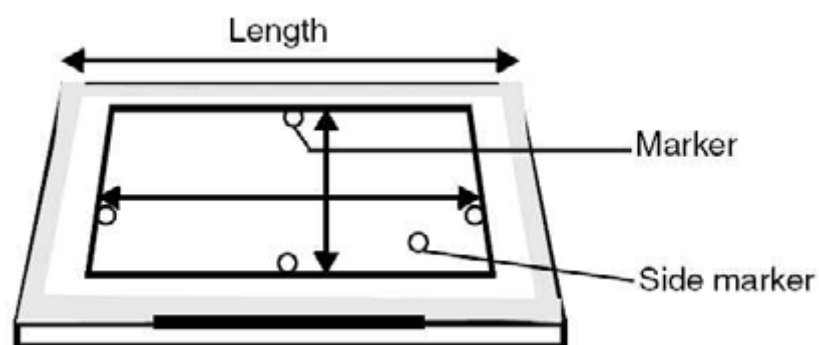

Fig. 52: *Coincidence_light and radiation*
- Apply radiopaque markers (e.g. washers, coins) as shown in (Fig. 52 / p. 99). Use one washer as a side marker.